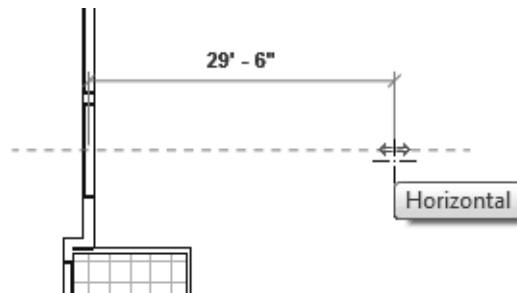

Figure 2–77
2. When you are modeling (not editing) a linear element, how do you edit the temporary dimension, as that shown in Figure 2–77?